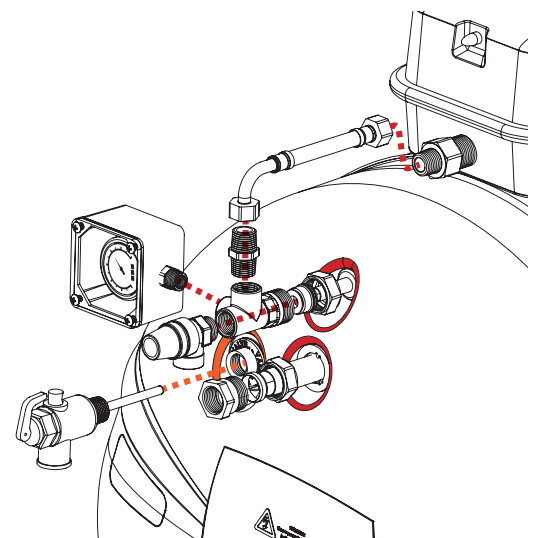

Figure 17. Expansion tank connection
- **Closed Circuit System** – see Figure 17
- **Expansion Tank Installation** – see Figure 17